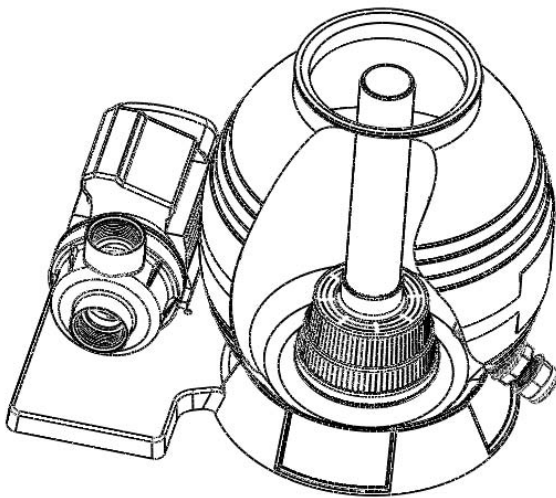

fig. 3
3. Press and turn the sand tank to mount it to sand filter support with correction direction (drain plug is at outside as in fig. 3).